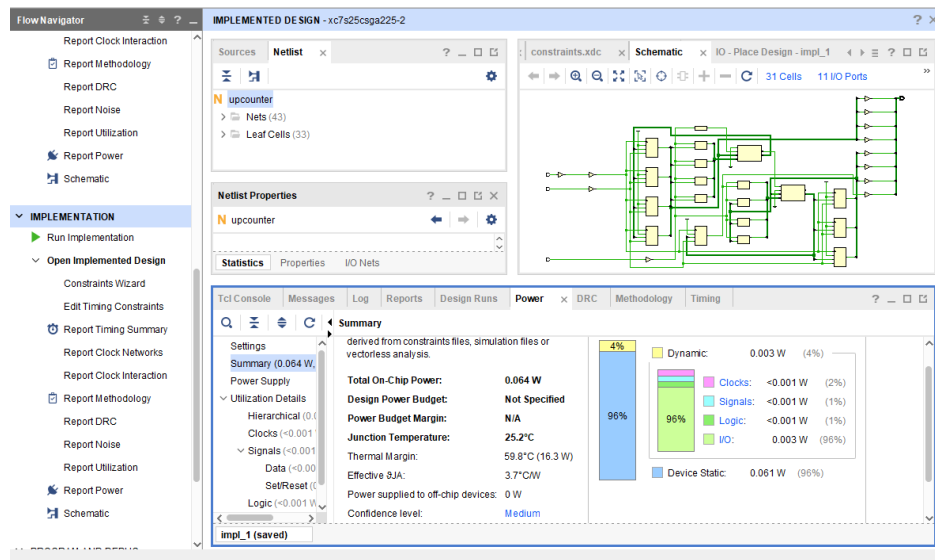

Figure 3: Open implemented design, view schematic and a detailed view of how the design has been placed on the FPGA.
4. Click on "Open Implemented Design" to view more details on the implementation. Here, we can view a diagram of where the design has been place on the FPGA. We can also view a schematic of the design by right-clicking the upcounter netlist and selecting "Schematic". In the "Power" tab where the reports are, we can view a nice breakdown of the module's power consumption – as shown in Figure 3